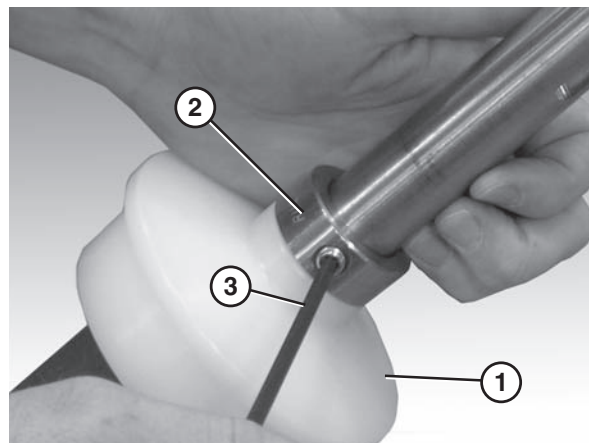

Figure 84
5. Slide the second flanged puck (**Figure 84, item 1**) and the retaining ring (**Figure 84, item 2**) onto the drive spindle.
6. Tighten the retainer ring fastener (**Figure 84, item 3**) using a hex wrench.